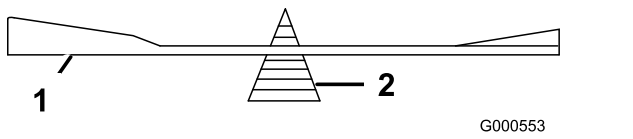

**Figure 56**
1. Use a file to sharpen the cutting edge at both ends of the blade (Figure 56).
**Note:** If the blade is not balanced, file some metal off the end of the sail area only (Figure 56).